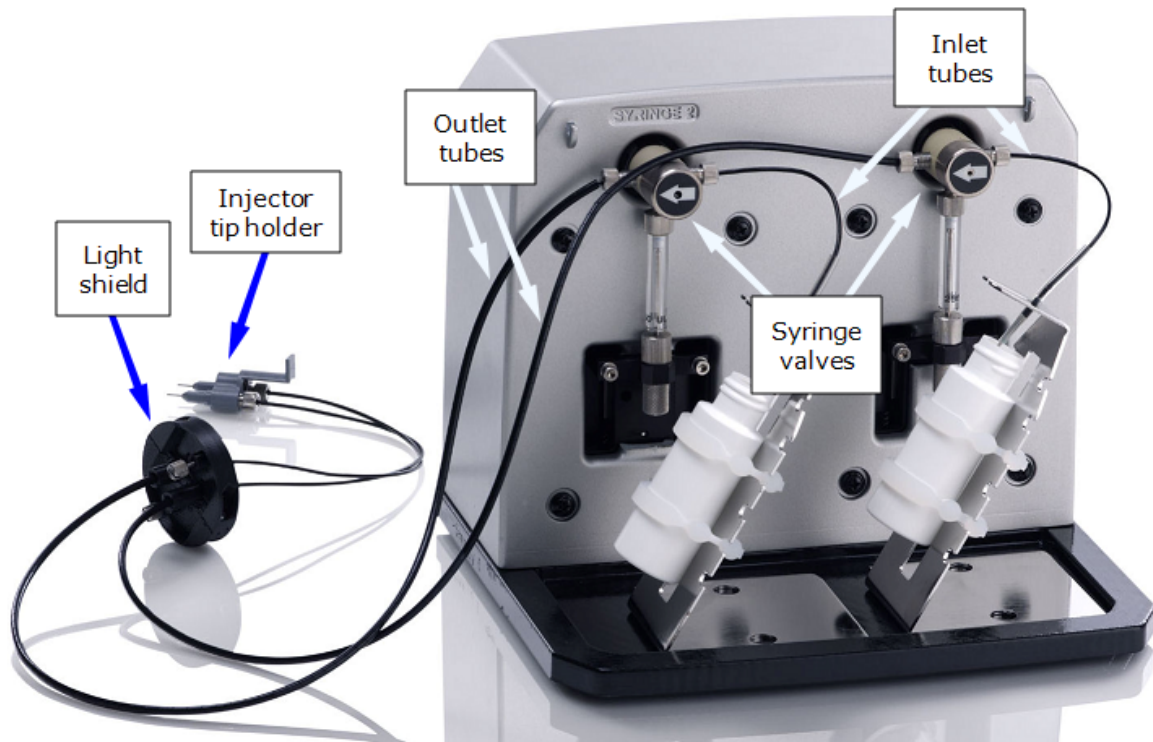

Figure 2-4: Dispense module components
4. Identify the two syringe valves on the dispense module (see Figure 2-4 on page 15). Each is labeled with a left-pointing arrow.